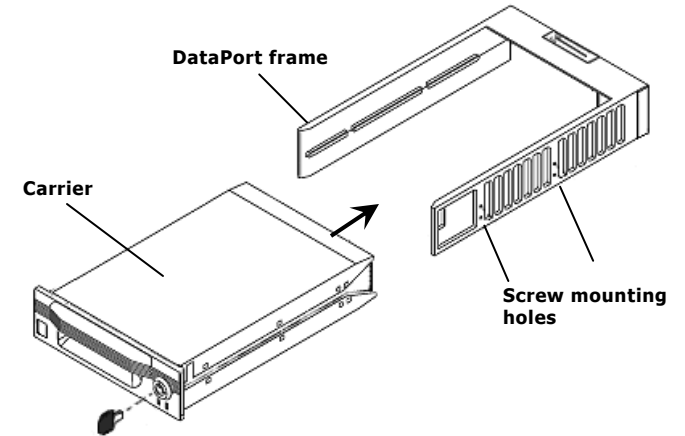

Figure 2 – Carrier (with covers in place) and frame
7. Using the screws provided, secure the frame assembly to the computer case using the frame's side mounting holes (see Figure 2). Your DataPort also has bottom mount holes in case you need to bottom mount the frame.